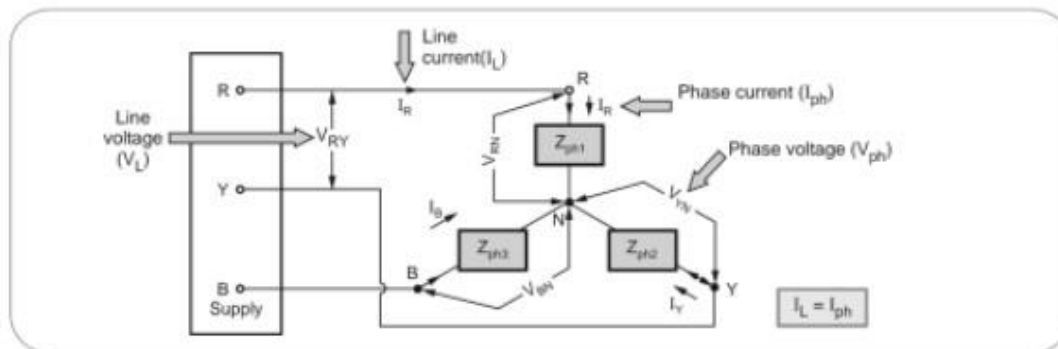

Fig. 1.5.6 Star connected load
**i) Star connected load :** There are three different impedances and are connected such that one end of each is connected together and other three are connected to supply terminals R-Y-B. This is shown in the Fig. 1.5.6.
- In the diagram shown in the Fig. 1.5.6  $V_{RN}$ ,  $V_{YN}$  and  $V_{BN}$  are phase voltages while  $I_R$ ,  $I_Y$  and  $I_B$  as shown in the Fig. 1.5.6 are phase currents. The phase voltages are denoted as  $V_{ph}$  while the phase currents are denoted as  $I_{ph}$ . Generally suffix N is not indicated for phase voltages in star connected load. So  $V_{ph} = V_R = V_Y = V_B$
It can be seen from the Fig. 1.5.6 that,